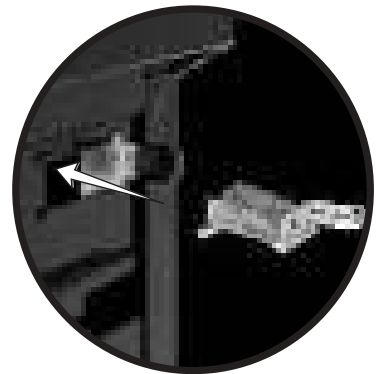

Figure 1
8. Place 1 fire starter in the fire starter holder (see fig. 1)
4. Place 1 fire starter in the fire starter holder (see fig. 1)